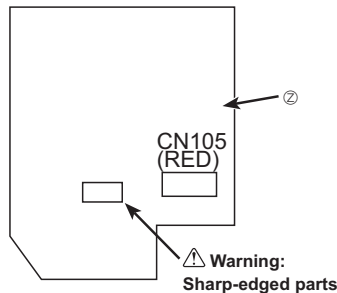

Fig. 6-6
- 14 Connect the electrical cord of radio frequency interface securely to CN105 (RED) on indoor controller board. (Fig. 6-6)